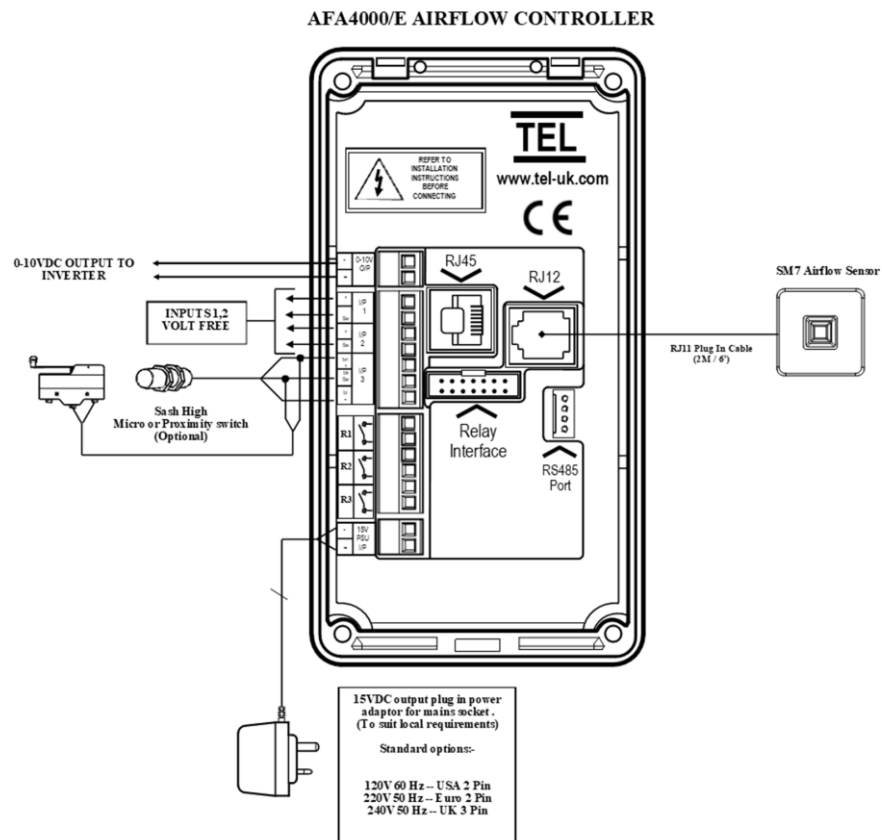

Figure 22: AFA4000/E inverter control connections
4. For inverter control, refer to Figure 22.